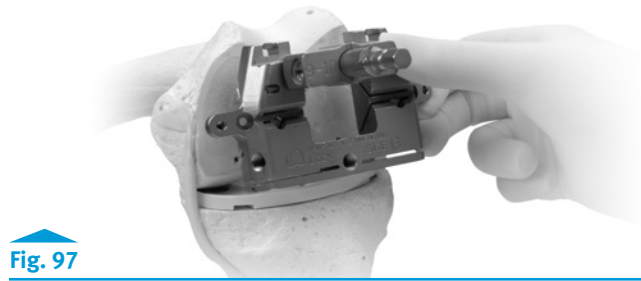

Fig. 97
- Slide the cutting block/bushing assembly over the reamer shaft or Stem Extension Provisional assembly until the cutting block is flush against the distal femur (**Fig. 97**).